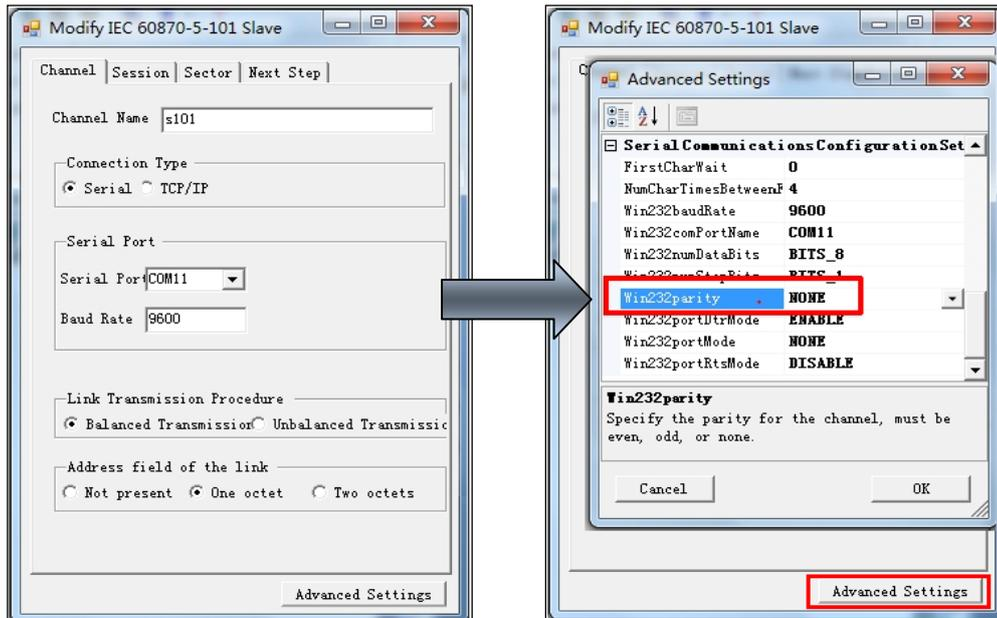

Figure 2-21 101 slave station setting 1
1) InDTU, which functions as the 101 master station, is connected to the 101 slave station through the serial port. Therefore, the baud rates, stop bits, parities, and data bits on the 101 slave and master stations must be identical. Set the **Link Transmission Procedure** value (choose **101 parameters > 101 to 104 protocol**) of the DTU to **Balanced Transmission**, which must be the same as that on the 101 slave station. Set the 101 link address length (choose **101 parameters > 101 to 104 protocol**) of the DTU to 1, which also must be the same as that on the 101 slave station, as shown in Figure 2-21.